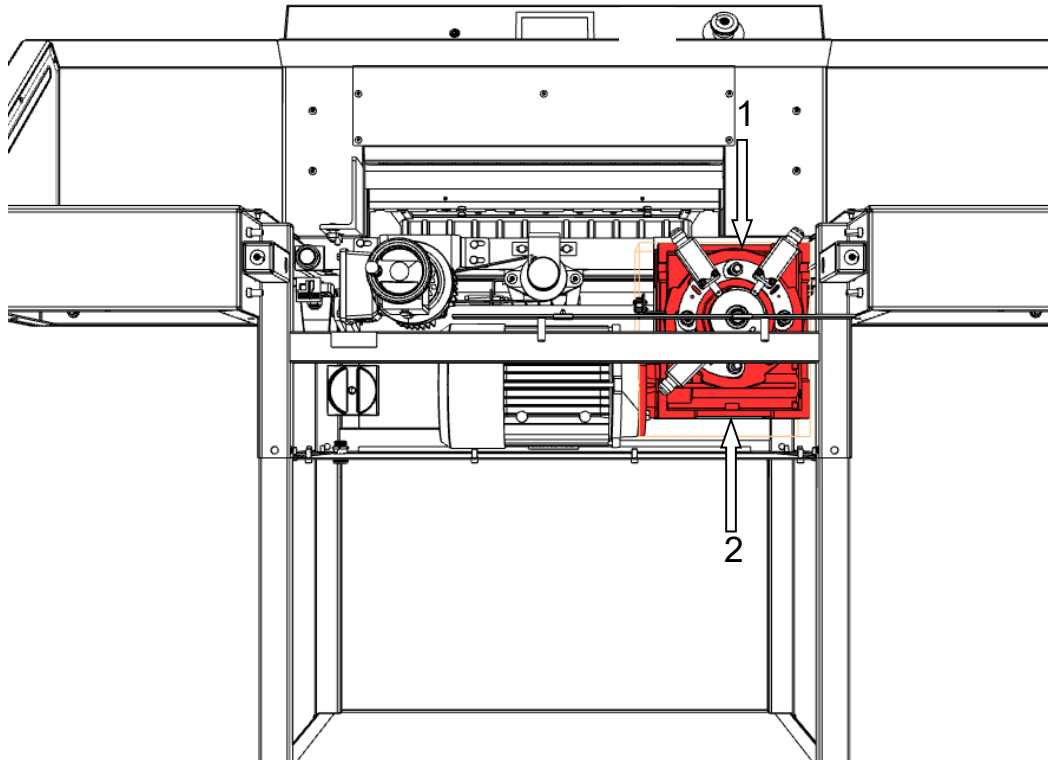

Figure 49. Oil change in the gear unit.
The worm gear reducers (Fig.49) and the pressure drive are filled with an exchangeable oil. The exchange should be made after 5 years of work. The use of GL-5 and / or MIL-L-2105D gear oil is recommended.
5. Unscrew the filler cap 1 (fig.49) and pour new oil (about 0.5 liters)